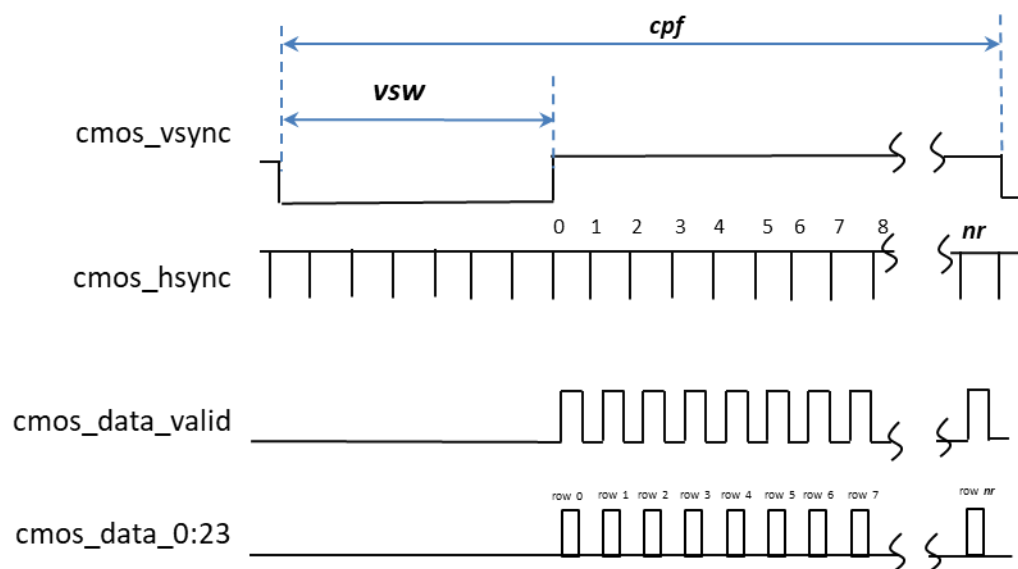

Figure 53: Frame Timing of the CMOS Output Channel
2. Each frame period consists of three distinct sections, as illustrated in Figure 53:
- b. A period during which successive rows of data are provided. The total number of rows during each frame, *nr*, varies depending upon settings, as shown in Table 9. Note that the number of *cmos_hsync* pulses during a frame will typically exceed *nr* because, as illustrated in Figure 53, *cmos_hsync* continues to be output at a regular interval even during the vertical sync and the blanking periods (i.e. even when *cmos_data_valid* is not being asserted).